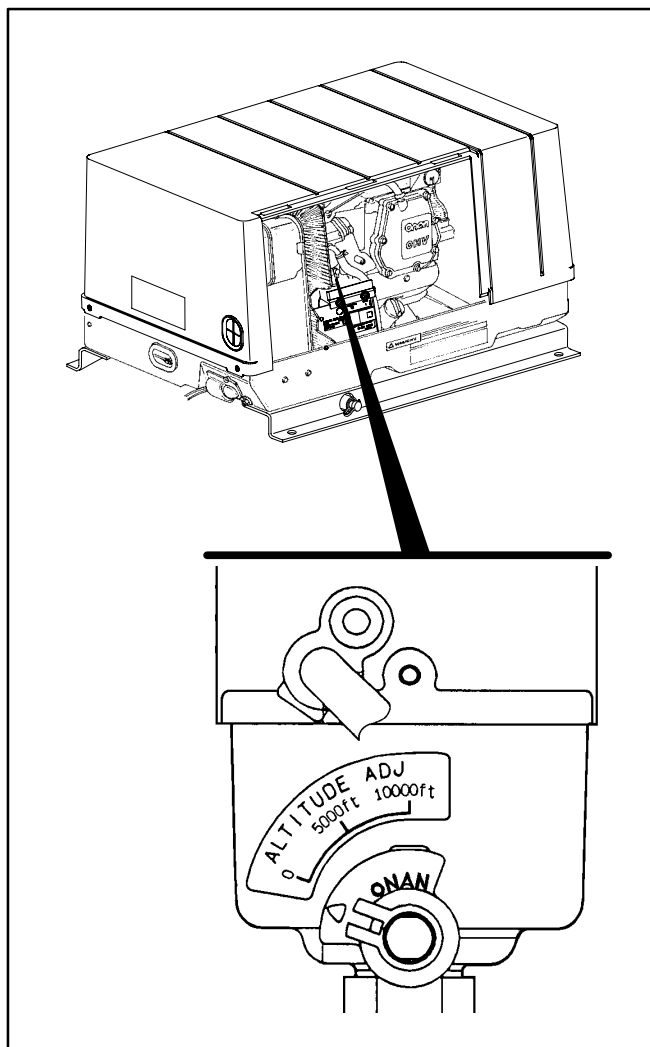

FIGURE 8. ALTITUDE ADJUST KNOB
2. Reset the carburetor for altitude (Figure 8).
5. Reset the carburetor for altitude (Figure 8).
For best fuel economy and genset operation reset the carburetor for the altitude of the lake or river (Figure 8). For the effect of altitude on maximum power, see LOADING THE GENSET (Page 10).